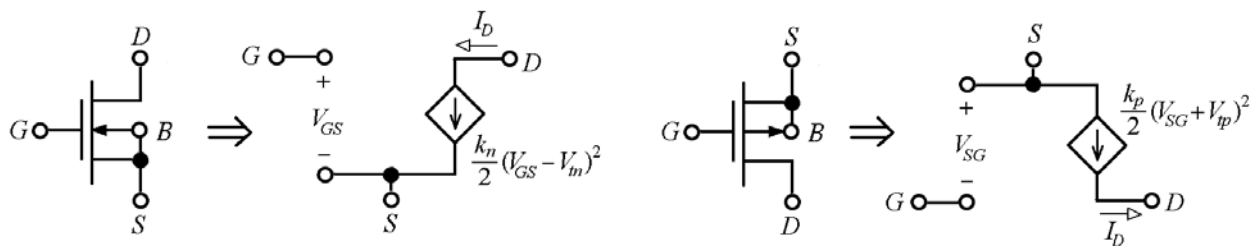

Fig. 7 – Large-signal MOSFET models
- In the *PO region*, the *GS* port still acts as an open circuit, but the *DS* port now acts as a *dependent current source*, which in the case of the *nMOSFET* takes on the form $I_D \cong (k_n/2)(V_{GS} - V_m)^2$, where we are arbitrarily assuming $\lambda_n = 0$ to simplify our DC calculations. Similar considerations hold for the *pMOSFET*, and the two models are shown in Fig. 7.